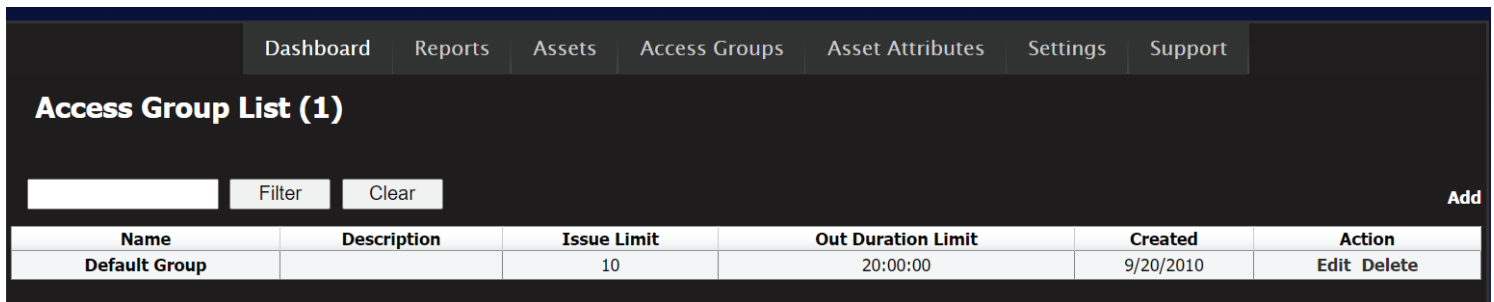

Figure 49: Edit Access Group Screen
- From the Access Group home screen > click the Add button in the upper right (figure 49).